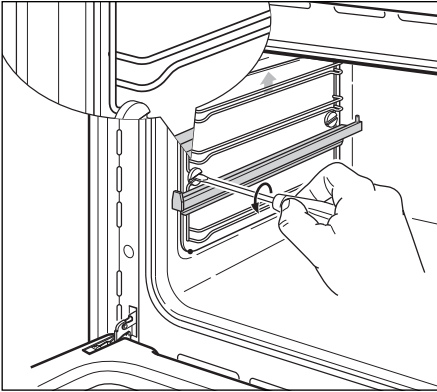

Fig.16 Removing the side racks and catalytic panels (some models only)
The catalytic panels are covered with a special microporous enamel which absorbs and does away with oil and fat splashes during normal cooking over 200 °C. If, after cooking very fatty foods, the panels remain dirty, heat the oven on maximum for an hour to an hour and a half, and they will self-clean. The side panels are reversible. Make sure that you replace them with the arrow up, and on the correct side. To remove the side catalytic panels, you first need to unscrew the side racks. See Fig. 16.
- 1 Remove the side racks by unscrewing the fixing screws (Fig. 16).
- 1 Screw the side racks onto the oven wall (Fig. 16).